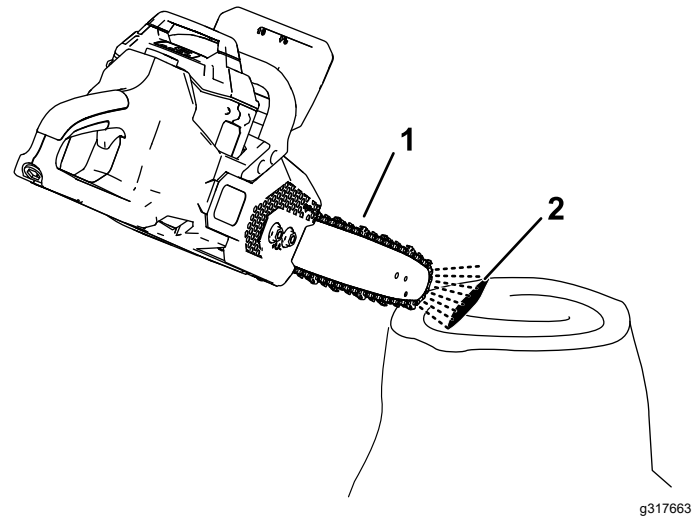

Figure 28
2. To ensure that oil is flowing to the chain, point the nose of the chain saw a few inches from a surface (e.g. paper, cardboard, a stump) and run the chain saw; you should be able to see a light spray of oil on the surface (Figure 28).